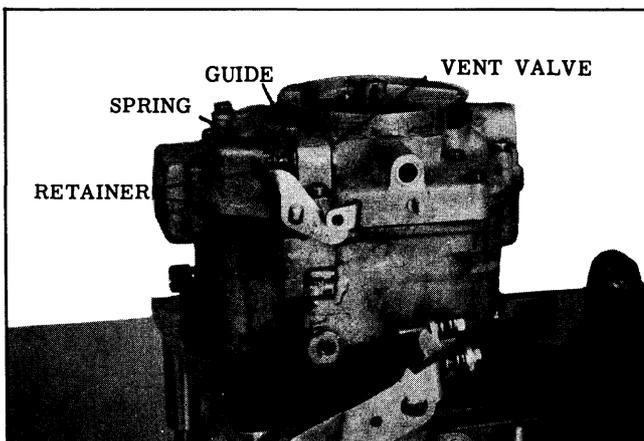

Fig. 8-137 Vent Assembly
3. Install atmospheric vent valve assembly, spring and retainer. (See Fig. 8-137)